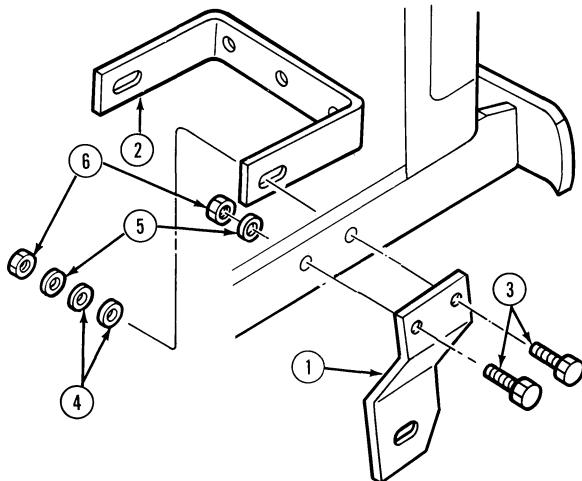
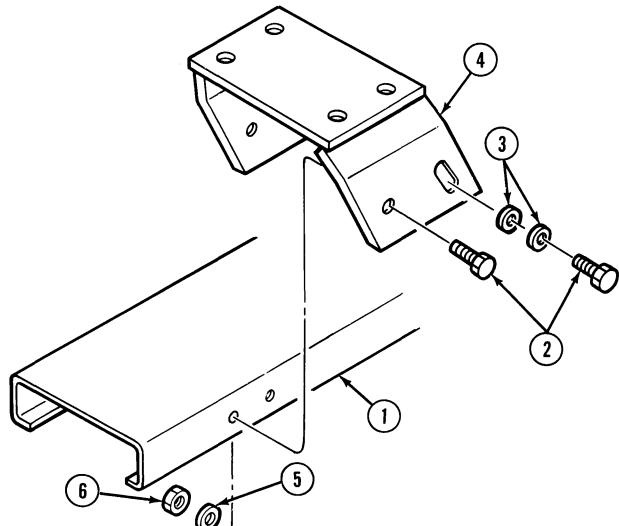

Figure 2
Figure 3
2. Attach the right and left front mounting brackets, (1), Figure 2, to the outside of tractor frame. Attach the bumper reinforcement, (2), to the inside of tractor bumper and frame.
Attach the front mounting brackets and bumper reinforcement using four 1/2" NF x 2" hex hd. bolts, (3), lockwashers, (5), nuts, (6), and flat washers, (4), as shown in Figure 2. Use two flat washers over each slotted hole on either side of the bumper reinforcement. Do not tighten the bolts at this time.
2. Attach the rear frame, (1), to the back hole in the rear mounting bracket, (4), using two 1/2" NF x 1-1/2" hex hd. bolts, (2), flatwashers, (3), lockwashers, (5), and nuts, (6), as shown in Figure 3. Do not tighten the bolts at this time.
4. Attach the rear frame to the front hole in the rear mounting bracket using two 1/2" NF x 1-1/2" hex head bolts, lockwashers, nuts, and four flat washers, as shown in Figure 3. Use two flat washers over each slotted hole as shown.
IMPORTANT: Torque the bolts attaching the rear frame to the front and rear mounting brackets (Figure 3 and 4), and front mounting brackets at the tractor frame (Figure 2) to 80-96 lbs.-ft.